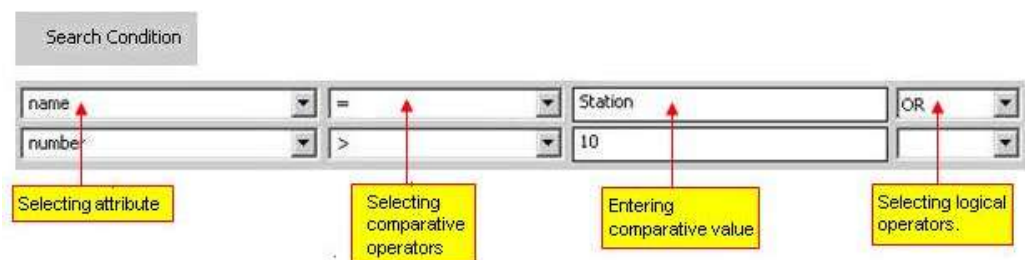

Figure 111: Entering the Report Parameters to Search for the Data
- **Logical Operators:** The logical operators **AND** and **OR** enable the entering of further report conditions. *Please refer to the Figure 111.*